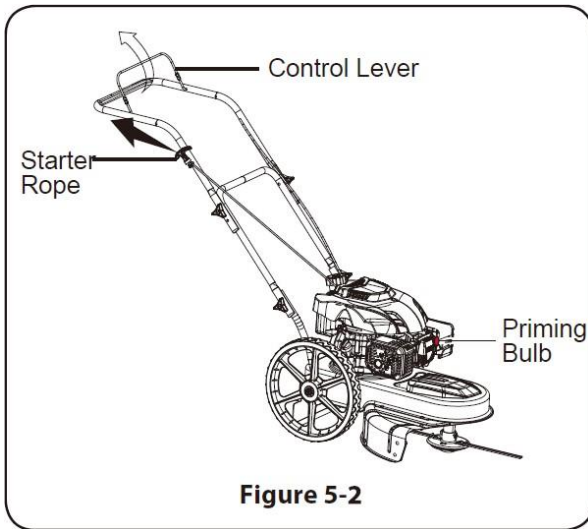

Figure 5-2
1. Press the priming bulb one or two times and depress control lever. Pull the starter rope to start the engine. See Figure 5-2.